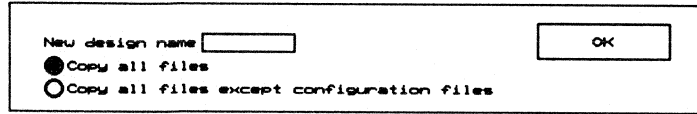

Figure 2-3. New design name window.
2. Select **Create Design**. The window shown in figure 2-3 displays.